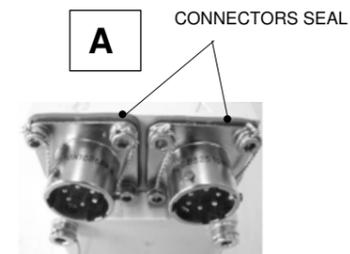

Fig 3 : Connectors seal only
- 2 connectors A et B (figure 3)